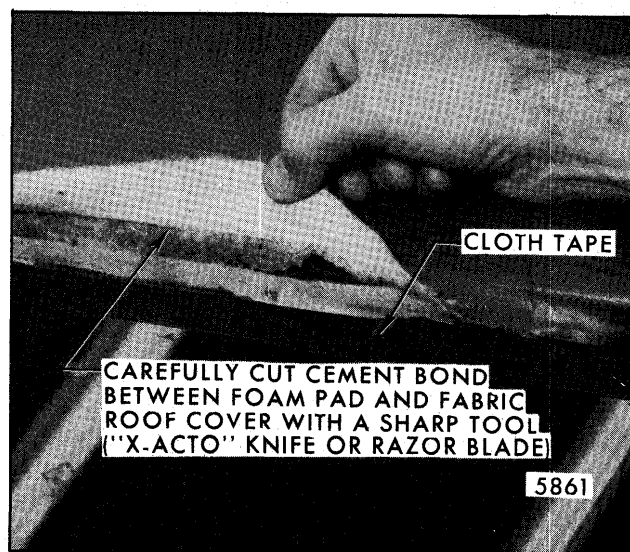

Fig. 8-18-Cutting Cement Bond Between Roof Cover and Foam Pad
7. Pull cover up to expose edge of foam pad. Using a very sharp knife or razor blade, carefully cut cement bond between fabric roof cover and foam pad (Fig. 8-18).